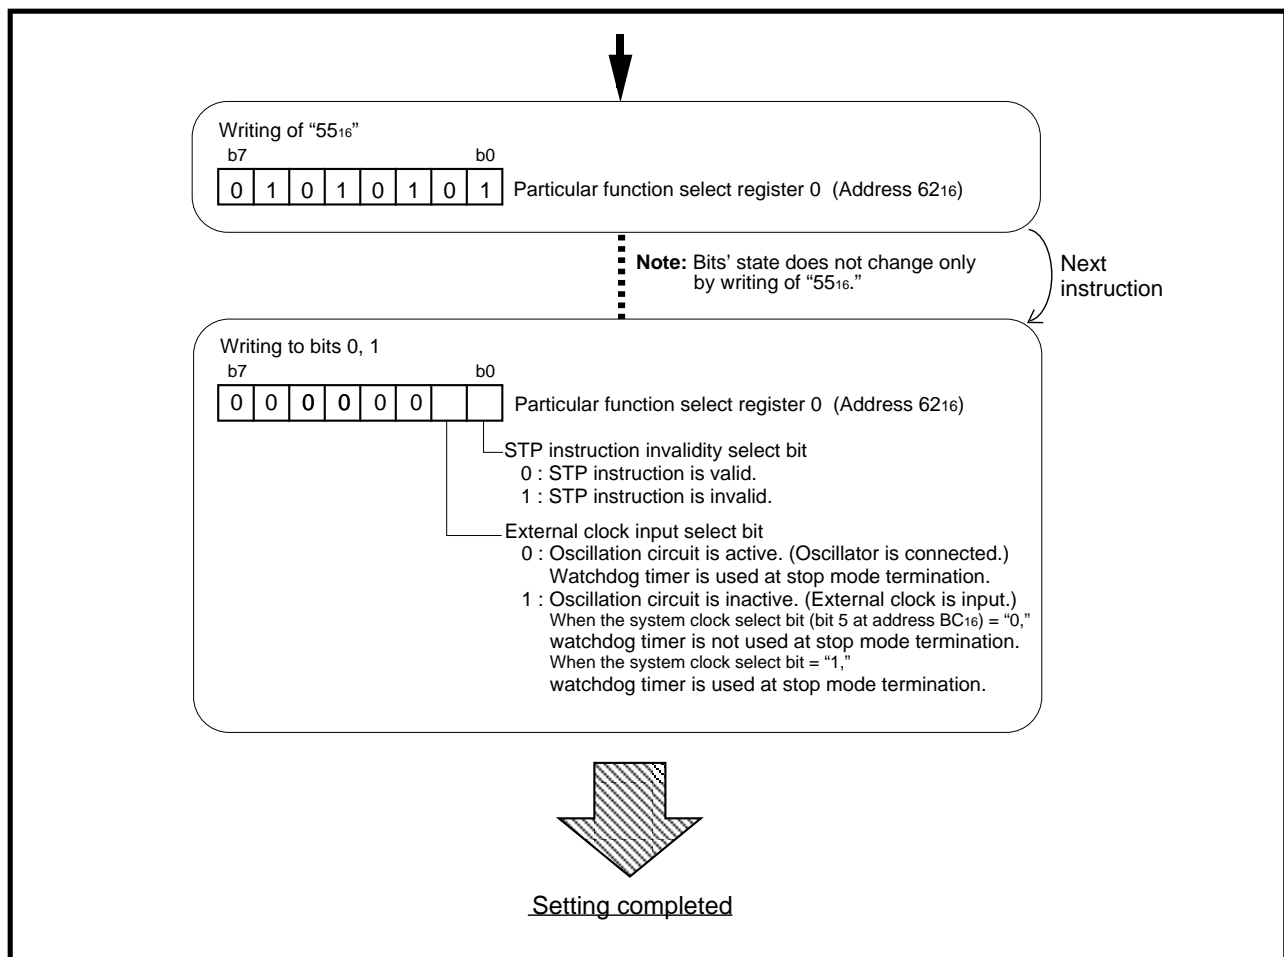

Fig. 15.2.3 Writing procedure for particular function select register 0
Figure 15.2.2 shows the structure of the particular function select register 0, and Figure 15.2.3 shows the writing procedure for the particular function select register 0.
- Succeedingly, write "0" or "1" to this bit. (See Figure 15.2.3.)
To rewrite this bit, write "0" or "1" just after writing of "5516" to address 6216. (See Figure 15.2.3.)